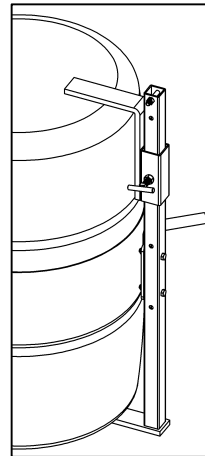

Figure 2.1
- The **Bracket Assembly** (Kit # 4556M-P) is **required** to handle a plastic drum without a top rim (see figure 2.1). It is also recommended to more securely handle a fiber drum. You can use the Bracket Assembly with a 55-gallon plastic, steel or fiber drum. The brace at top and bottom of the drum prevents it from slipping lengthways through the drum holder. It adjusts for a drum 31" to 39" tall.